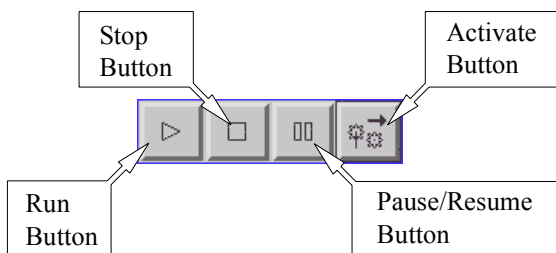

Figure 3-14 The experiment control tools.
4. **Choose the Interactive Parameter Setting mode.** Press the **Activate** button. (See Figure 3-14.) This button toggles between interactive and non-interactive parameter setting modes. As you edit parameters in the parameter panel in interactive mode, the new parameters are immediately activated on the spectrometer. In the non-interactive mode, you can edit instrument parameters in the parameter panel without activating them on the instrument. In this mode, the new parameters are only activated when you click the **Run** button.